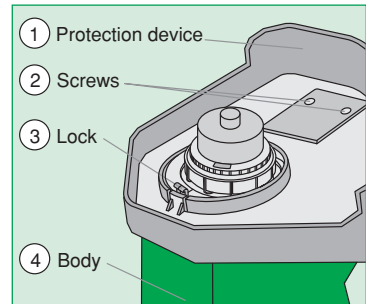
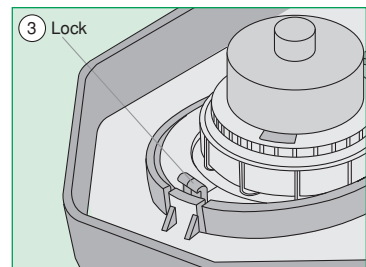

Fig. 1
Fig. 2
- The equipment is already assembled when delivered with the exception of the protection device. It is conditioned together with the equipment in the same package. To assemble it, turn the equipment upwards (Fig. 1)
- Place the protection device as per drawing, and fit it in lock (3) (Fig. 2). Press it to the body (4), put screws (2) in position and tighten them (Fig. 1).